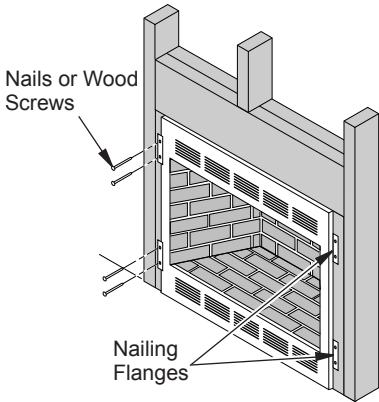

Figure 9 - Attaching Firebox to Wall Studs
5. Attach firebox to wall studs using nails or wood screws through holes in nailing flange (see Figure 9).